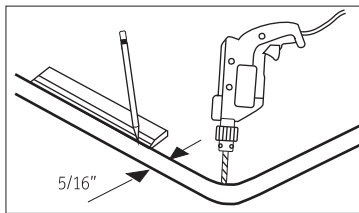

Figure 2
5. Remove sink from counter top and draw cutout line $5/16''$ inside the original rim outside line with $1-1/2''$ radius at corners. Drill hole at the inside corner of the cutout line. (Figure 2)